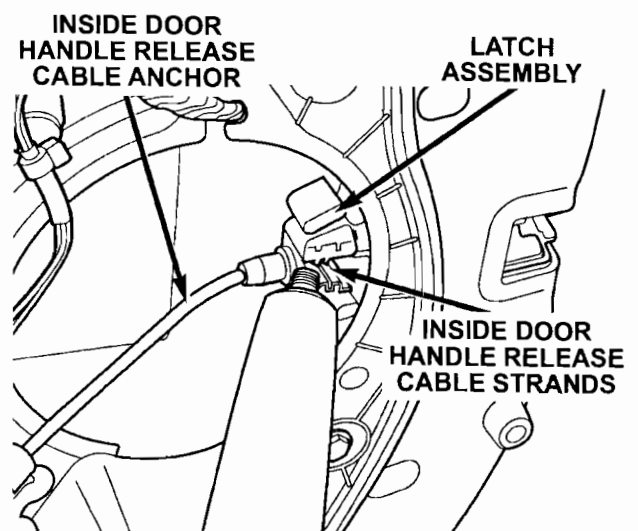

Figure 8
27. Apply a small amount of Lubriplate® white grease on the cable strands where the inside door handle release cable attaches to the latch assembly (Figure 8).